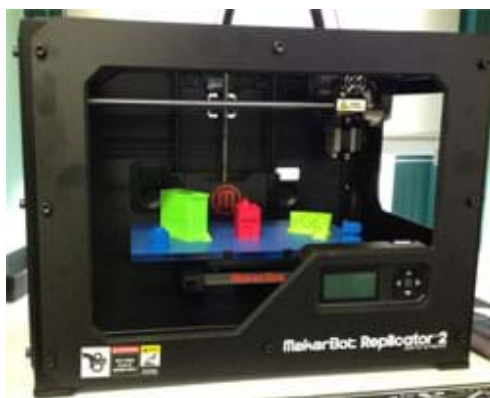

Figure 2. An example 3D printer, the MakerBot Replicator 2.
1. **3D printer**, for example, the many models made by MakerBot Industries such as the MakerBot Replicator 2 (Figure 2; \$2,000) or MakerBot Replicator Mini Compact (\$1,375) at <https://store.makerbot.com/>; the author used an earlier version of these 3D printers, the Thing-o-matic by Makerbot (<http://www.makerbot.com/support/thingomatic/>); using any 3D printer also requires the use of computers and software, such as: